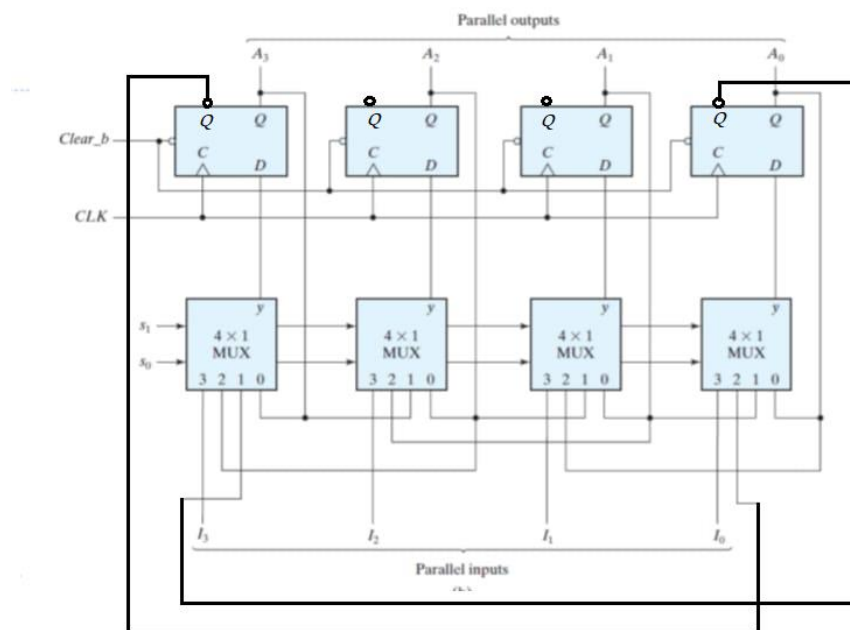

Figure 2.1.4 Universal Shift Register as Johnson Counter Diagram
- From the above figure 2.1.4, selected pins the mode of operation of the universal shift register.